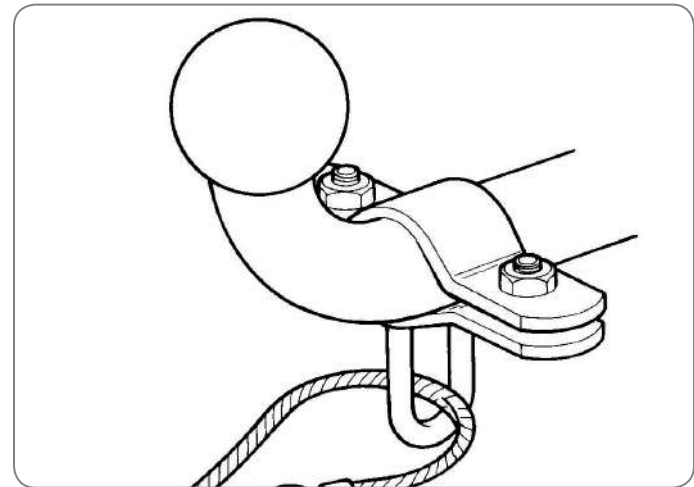

Figure 1.09
2. Fit the breakaway cable to the dedicated mounting ring on the car (figure 1.09). This cable must never be connected to the tow bar ball, but to a ring fitted especially for this purpose. Check that the breakaway cable has enough play.